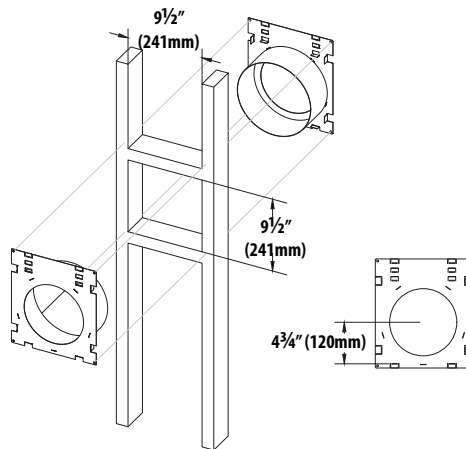

Figure 3.4, Minimum Horizontal Venting
- Rigid vent pipe dimensions in Figure 3.4 reflect DuraVent 4" x 6-5/8" coaxial pipe venting system.
- Flexible vent pipe framing dimensions are tested with Kozy Heat #700-2 Series Flexible Vent System. See Figure 3.4 on the following page.